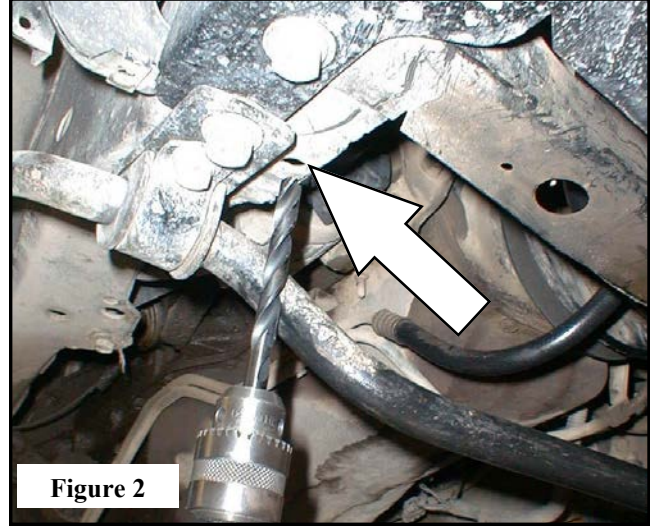
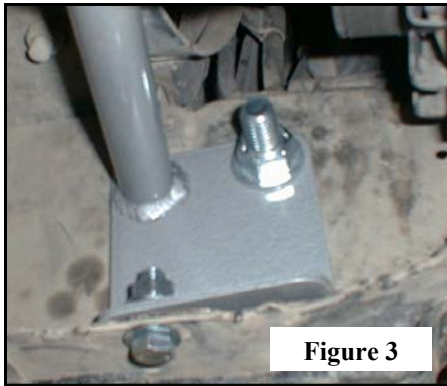

Figure 2
Figure 3
- Locate the existing hole in the passenger side lower frame rail using the brace as a guide. Enlarge this hole to 7/16" with a power drill. **See Figure 2**. Install one 7/16" flat washer on the 7/16x1-1/4" bolt, then insert the bolt up through the frame and brace. Then install one more 7/16" flat washer over the threads of the bolt and install the 7/16" crimp lock nut on the bolt. Do not tighten at this time. **See Figure 3**.